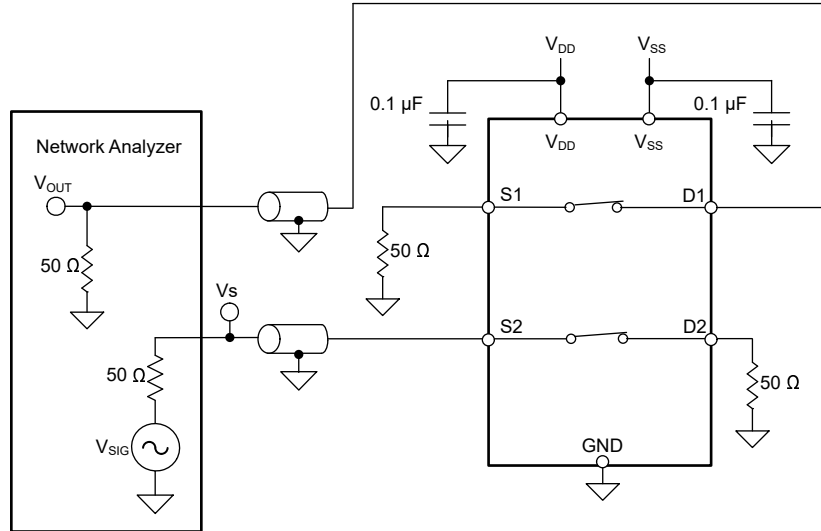

Figure 6-9. Crosstalk Measurement Setup
Crosstalk is defined as the ratio of the signal at the drain pin (D) of a different channel, when a signal is applied at the source pin (S_x) of an on-channel. Figure 6-9 shows the setup used to measure, and Equation 3 shows the equation used to calculate crosstalk.